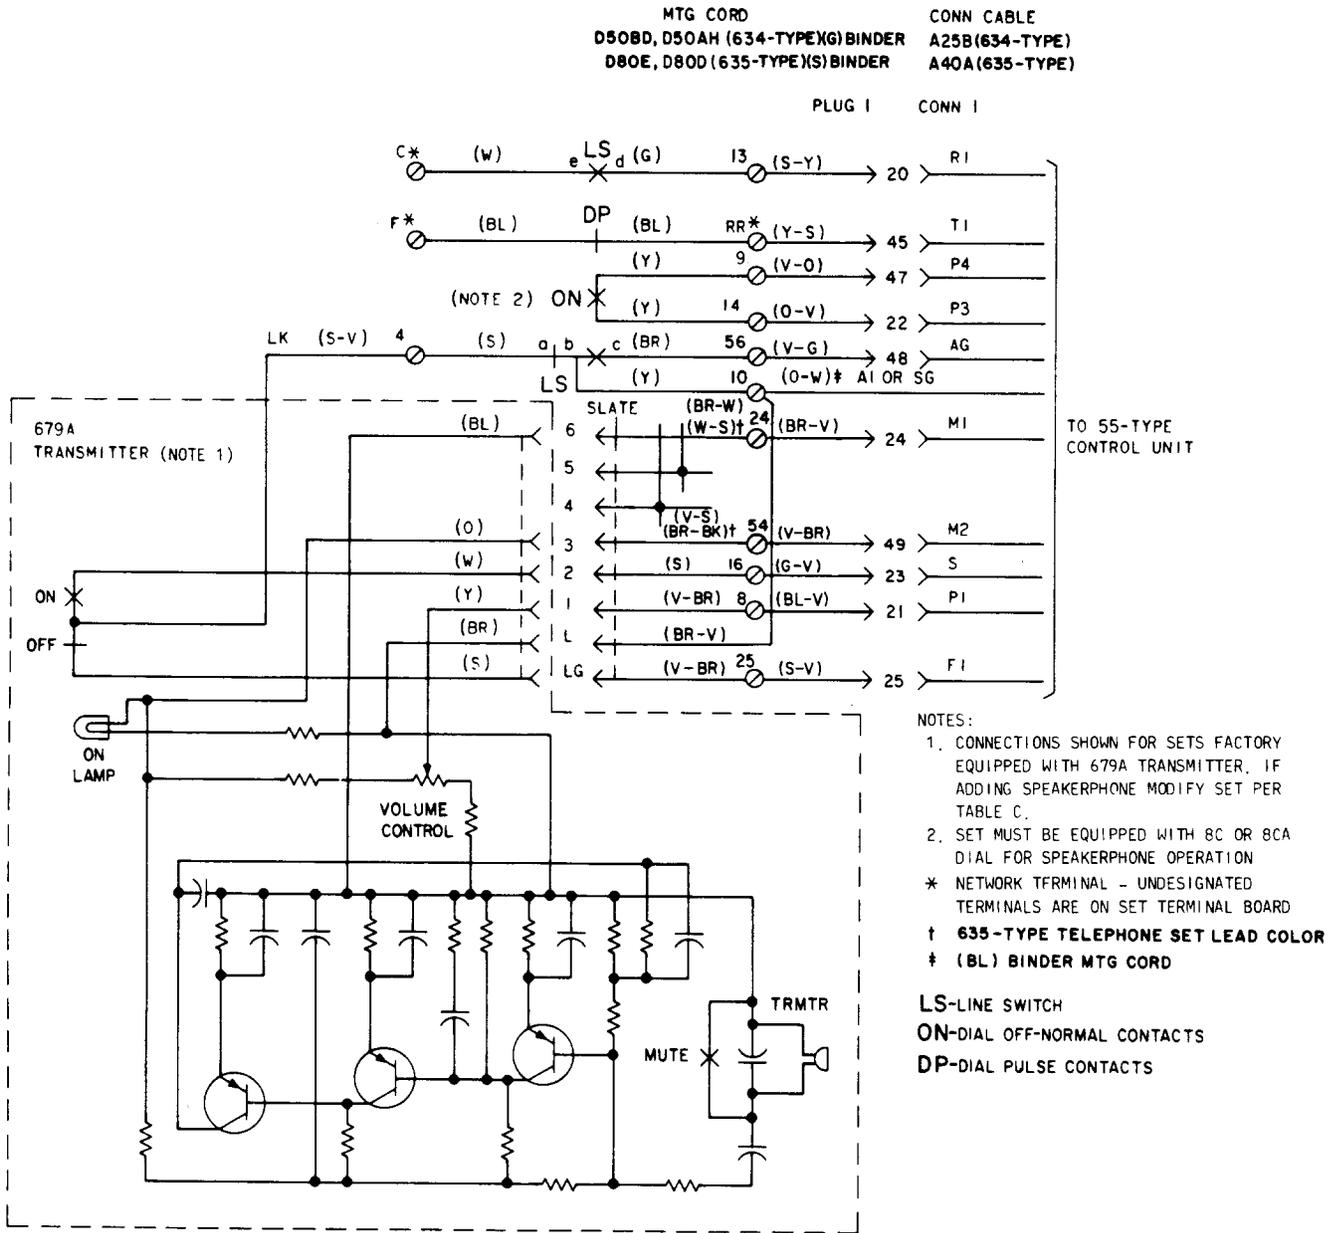

Fig. 5—3-Type (MD) Speakerphone Connections
the 3rd (634-type) or 5th (635-type) module (Fig. 5). For necessary wiring changes and connections, see Table C. Replace the 8R dial with 8C dial.
**Note 1.** Mounting cord conductors from (G) (634DA, DAM, DAMS) or (S) (635DA, DAM, DAMS) binder.
**Note 2.** Connect the slate plug from the 3rd or 5th module to the 679A transmitter (Fig. 5). All other plugs in the module are insulated and stored.